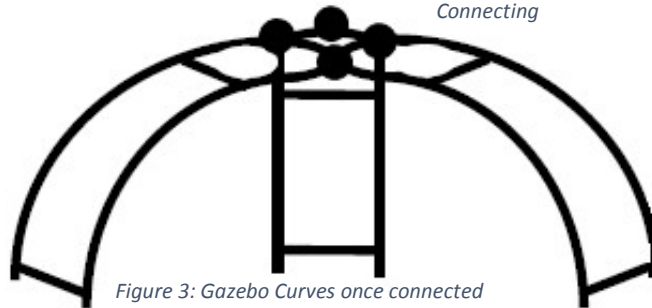

Figure 3: Gazebo Curves once connected
9. Once completed the curves will form a structure as shown in Figure 3.